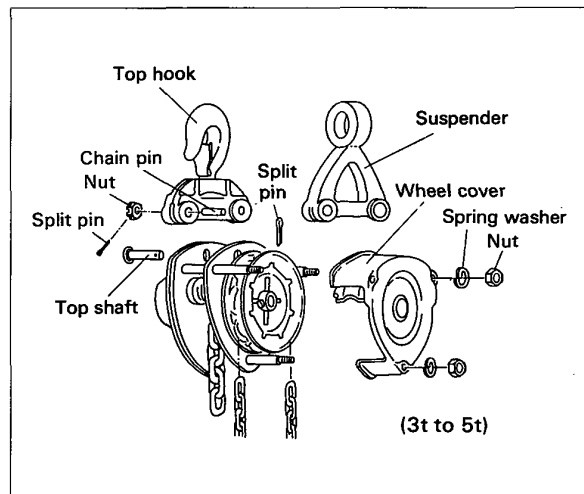

Fig. 3
2) For 3 or 5 ton capacity. (Refer to Fig. 3.)
- a) Straighten the bent split pin, remove the slotted nuts, pull out the chain pins, and then remove the load chain from the top hook, in Fig. 3.